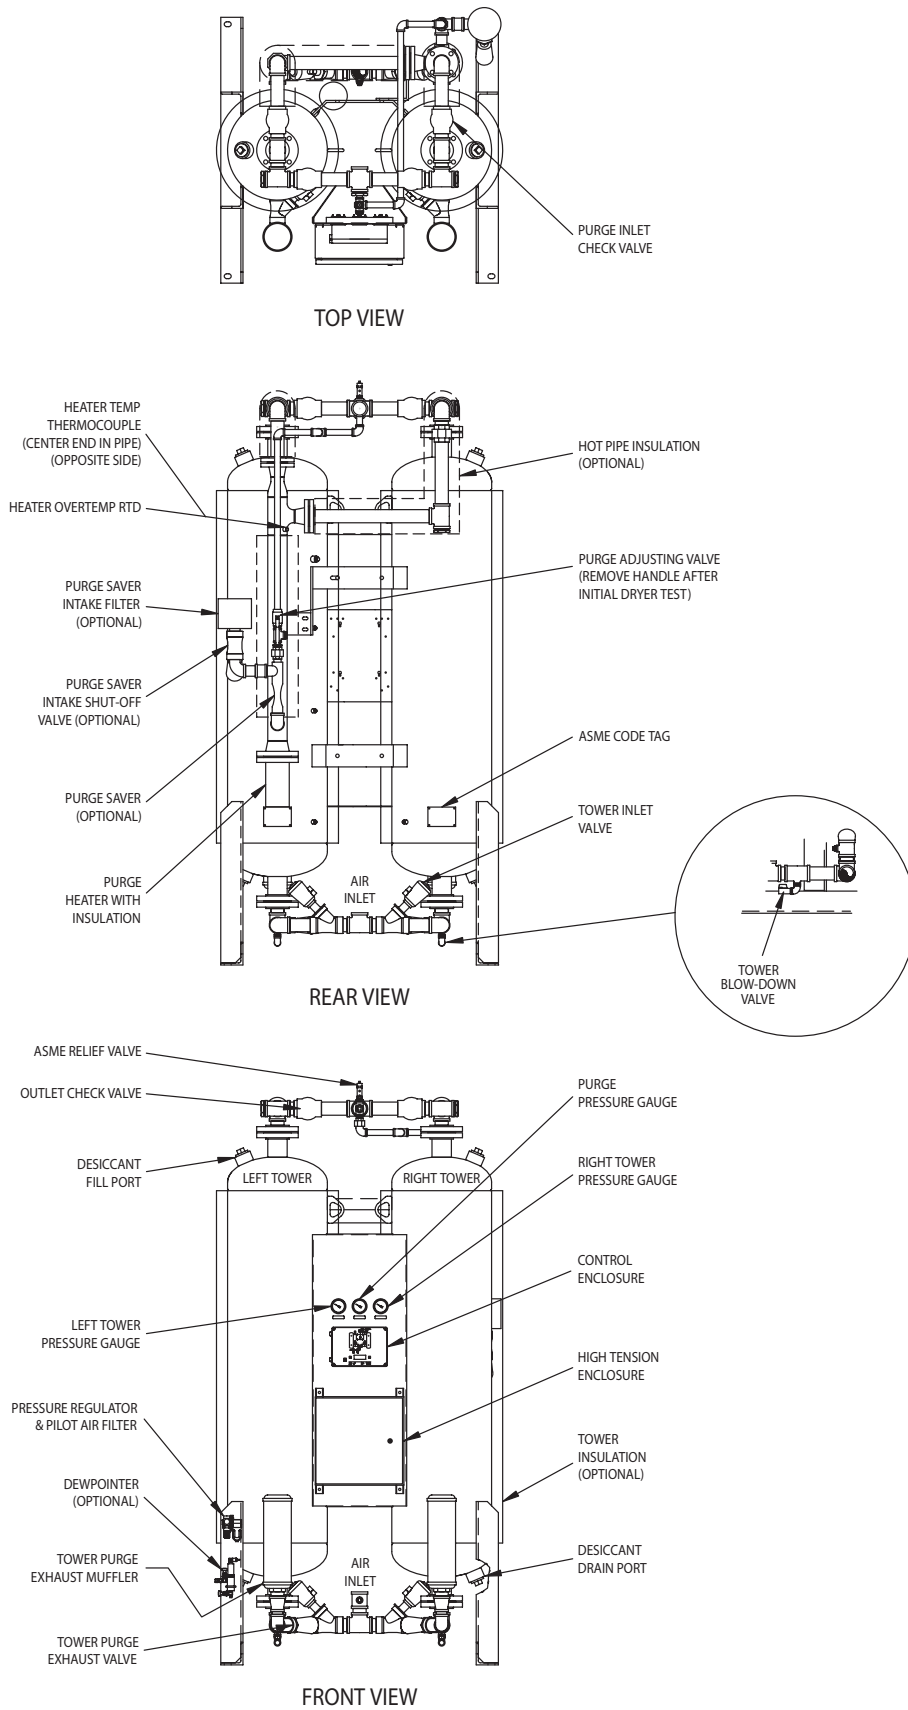

Figure 3
2. Remove the pipe plug or fill port flange cover (where applicable) from the desiccant fill port at the top of each tower. Refer to Figures 3 and 3a for the fill port location.